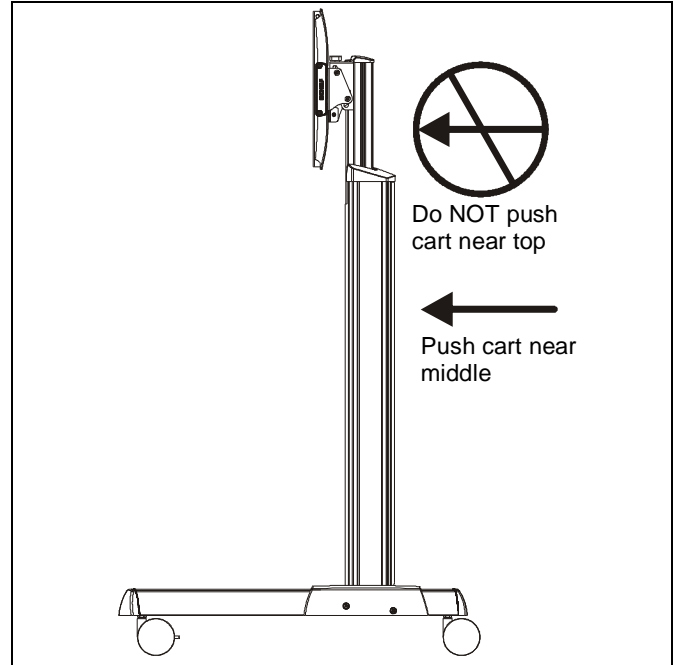

Figure 18
**WARNING:** CART CAN TIP OVER RESULTING IN INJURY! Do not allow children under 16 to move cart. Only adults should move this cart. Move cart slowly. Apply moving force on narrow dimension. Never apply force at top - always push toward the middle. Push, don't pull cart. (See Figure 18)